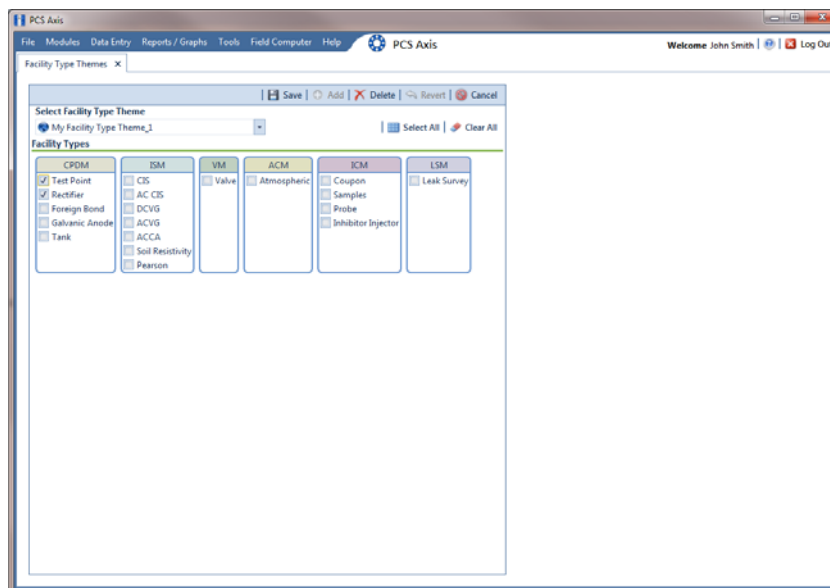

Figure 14-6. Facility Type Themes Management
- 1 If the *Facility Type Themes* window is not open, click **Tools > Facility Type Themes** (Figure 14-6).